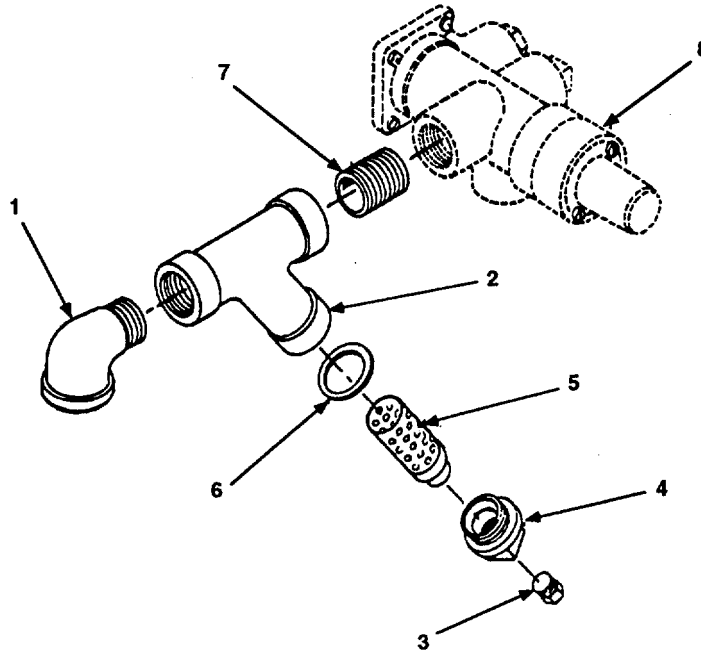

Figure 4-17. Strainer Maintenance.
- a. Remove street elbow (Figure 4-17, 1) from strainer body (2).
- b. Remove pipe plug (3) from strainer cap (4) and allow water to drain from strainer body (2).
- c. Remove strainer cap (4) from strainer body (2).
- d. Remove strainer screen (5) and gasket (6).
- e. Remove strainer body (2) from close nipple (7).
- f. Remove close nipple (7) from pilot valve assembly (8).